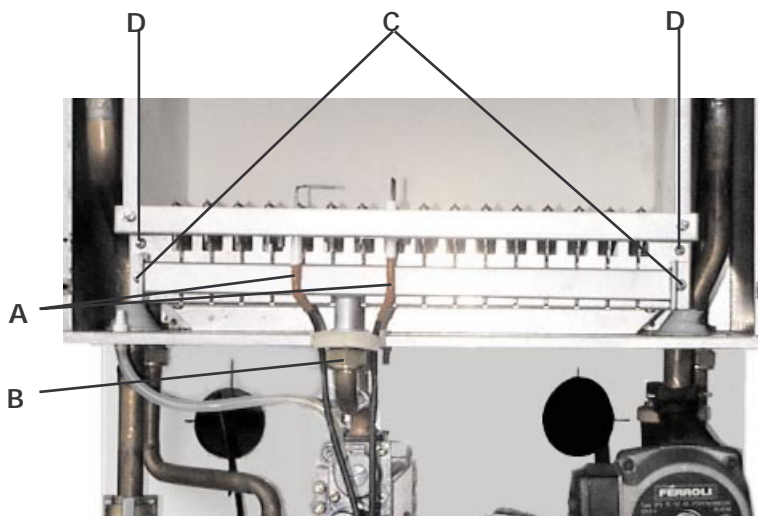

Fig. 30
7.10 Removal of burner (fig. 30)
7.11 Injectors (fig. 30)